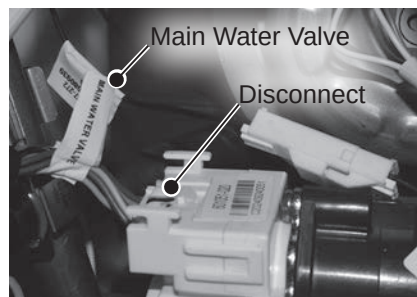

Figure 42 - Disconnecting main water valve
- 20 Locate the main water valve wiring harness and disconnect it. See Figure 42.